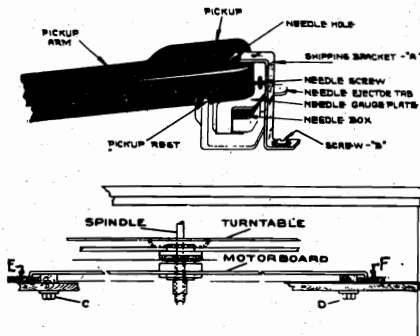

Figure 1 - Unpacking
FIG. 1. SHOWS THE DIAL DRIVE MECHANISM IN ITS NORMAL STATIONARY POSITION ENGAGED FOR MANUAL TUNING. THE CORK ASSEMBLY C IS FRICITIONED AGAINST THE FACE OF STRING PULLEY P, DUE TO PRESSURE OF COIL SPRING S. THE PUSH BUTTON IS NOT PRESSED IN, LEAVING A SMALL GAP BETWEEN THE BRASS EYELET AND THE FLIP BAR.
THE OBJECT OF THE ABOVE MECHANISM OF COURSE IS TO ELIMINATE THE PRESSURE THAT OTHERWISE WOULD BE REQUIRED IF THE MANUAL TUNING CONTROL HAD TO BE SPUN AROUND WHEN USING THE PUSH BUTTONS. THE SCREW ADJUSTMENT R, FIG. 1, WILL PROVIDE THE PROPER AMOUNT OF CLUTCH RELEASE CLEARANCE AT G, FIG. 2.
PREPARING FOR OPERATION - Remove the bracket "A" securing the pickup and needle mechanism. This bracket is shown in place in Figure 1. It is held to the motorboard by means of a screw "B". Remove the screw, lift off the bracket and replace screw in motorboard to cover hole. Then remove red bolts "C" and "D" which hold the motorboard secure during shipment. These are also shown in Figure 1. When these bolts are removed it will allow the wood strips to be taken out. "E" and "F".
TO OPERATE THE PHONOGRAPH: To play records, set the radio Power switch to the "ON" position. With the Index Lever at Manual and the pickup resting on the support over the needle gauge plate, arm in groove, loosen the needle screw and drop a needle, point first, through the needle hole in the pickup. (See Figures 1 and 6). The needle will be stopped in the right position by the needle gauge plate. Press gently on top of pickup to seat it squarely on the gauge plate. Then tighten the needle screw with your fingers.
2. Make sure the pickup arm is resting in its groove with pickup over used needle box. See Figures 1 and 6.
2. Make sure the pickup arm is resting in groove with pickup over reject needle cup. Figs. 1 and 6.
CAUTION: DO NOT STOP THE TURNTABLE WITH TURNTABLE SWITCH OR POWER-TONE KNOB UNTIL THE PICKUP IS DOWN AT THE END OF A CYCLE. TO CHANGE NEEDLE: To change needle, place the pickup over the Needle Gauge Plate, with the pickup arm resting in the support groove, loosen the Needle Screw, press down the Needle Ejector Tab to drop the needle into the Used Needle Box (Figs. 1 and 6). Allow the gauge plate to return to its normal position. Drop a new needle point first, into the needle hole, press gently on pickup to seat it squarely on gauge plate and tighten the needle screw with your fingers.